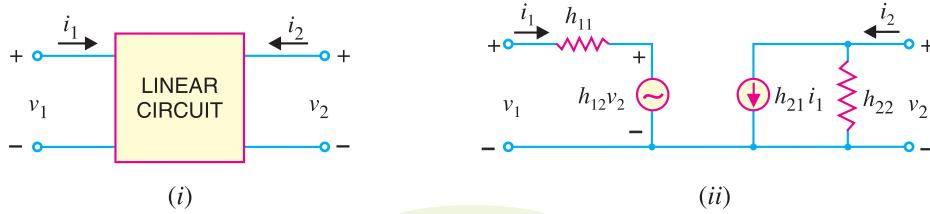

Fig. 24.6
Fig. 24.6 (i) shows a linear circuit. It is required to draw the *h* parameter equivalent circuit of Fig. 24.6 (i). We know that voltages and currents of the circuit in Fig. 24.6 (i) can be expressed in terms of *h* parameters as under :
Fig. 24.6 (ii) shows *h* parameter equivalent circuit of Fig. 24.6 (i) and is derived from equations (i) and (ii). The *input circuit* appears as a resistance  $h_{11}$  in series with a voltage generator  $h_{12} v_2$ . This circuit is derived from equation (i). The *output circuit* involves two components ; a current generator  $h_{21} i_1$  and shunt resistance  $h_{22}$  and is derived from equation (ii). The following points are worth noting about the *h* parameter equivalent circuit [See Fig. 24.6 (ii)] :
(ii) The different hybrid parameters are distinguished by different number subscripts. The notation shown in Fig. 24.6 (ii) is used in general circuit analysis. The first number designates the circuit in which the effect takes place and the second number designates the circuit from which the effect comes. For instance,  $h_{21}$  is the “short-circuit forward current gain” or the ratio of the current in the output (*circuit 2*) to the current in the input (*circuit 1*).
**(iii)** The equivalent circuit of Fig. 24.6 (ii) is extremely useful for two main reasons. First, it isolates the input and output circuits, their interaction being accounted for by the two controlled sources. Thus, the effect of output upon input is represented by the equivalent voltage generator  $h_{12}v_2$  and its value depends upon output voltage. Similarly, the effect of input upon output is represented by current generator  $h_{21}i_1$  and its value depends upon input current. Secondly, the two parts of the circuit are in a form which makes it simple to take into account source and load circuits.